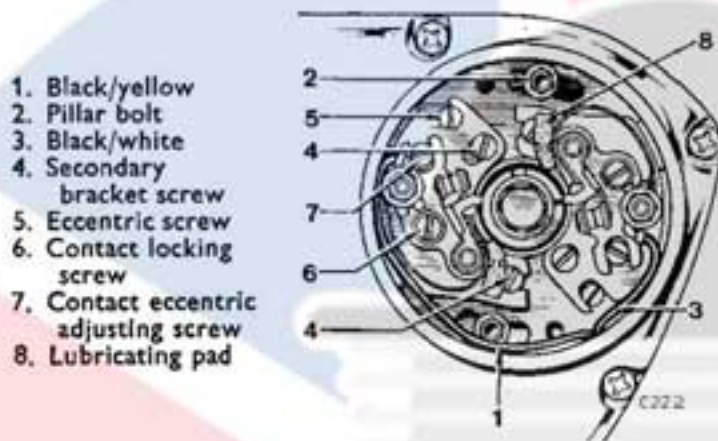

Fig. B22. Contact breaker 6CA
- (2) Repeat for the L.H. plug and adjust the timing by slackening off the clamping screw on the auxilliary backplate and turning the eccentric screw (see Fig. B22) until again the markings align. Timing is then correct. Refit the primary chaincase inspection plate.